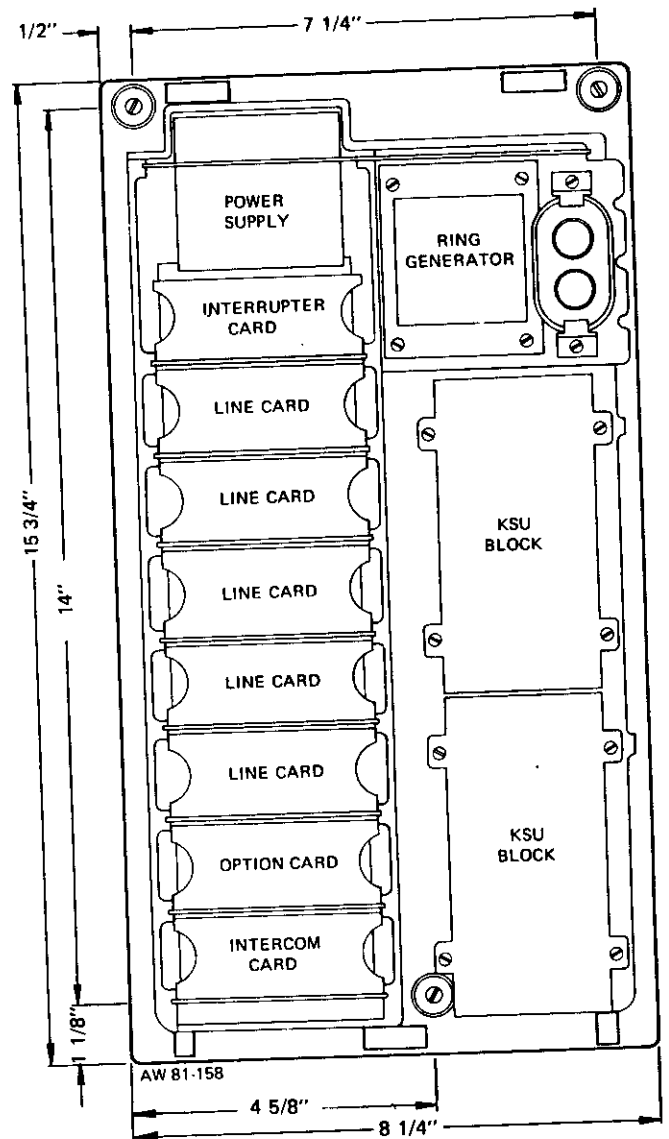

Figure 3: Dimensions, 601A KSU
3.01 Compare the size of the area in which the 601A is to be installed with the dimensions of the 601A. (See Figure 3.) Be sure to allow room for